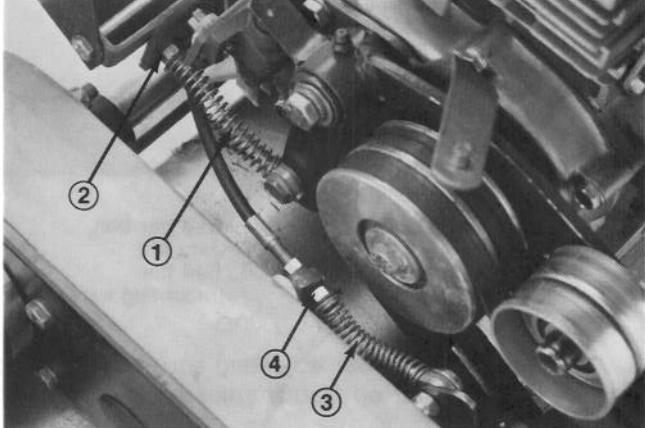

Figure 40
3. To increase cable tension, loosen front cable jam nut, and tighten back cable jam nut (Fig. 40) until a force of 3-5 lbs. is required to engage traction control. Force to be measured at control knob.
2. Remove wing nut securing belt cover and pivot cover (Fig. 40).
3. To increase cable tension, loosen front cable jam nut and tighten back cable jam nut (Fig. 40) until a force of 3-5 lbs. is required to engage brake. Force to be measured at lever knob. Do not over adjust, so brake band drags.